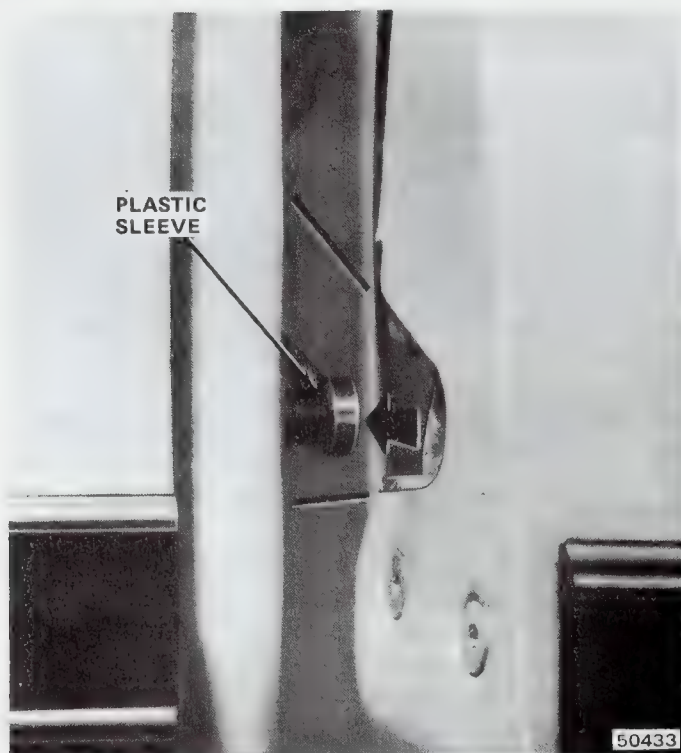

Fig. 3J-41 Lock Striker Alignment
(1) Determine proper striker alignment (fig. 3J-41).